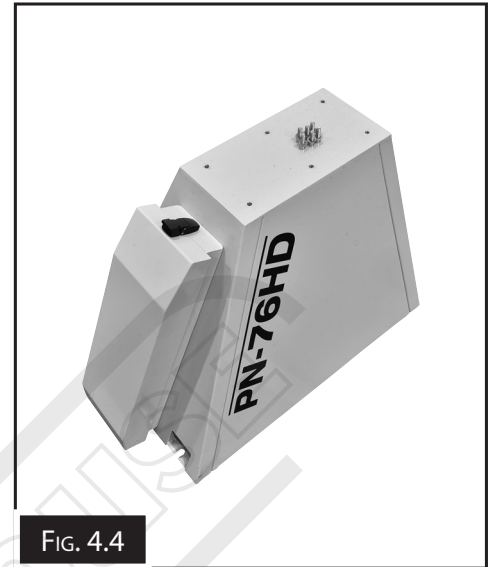

FIG. 4.4
2. Remove the six bolts from the top of the base. (Fig. 4.4)